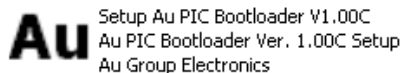

Figure C-1 - Setup Au PIC Boot-loader V1.00A icon
1. Double click icon of the “Setup Au PIC Boot-loader V1.00B” to start installing Au PIC Boot-loader (Figure C-1).